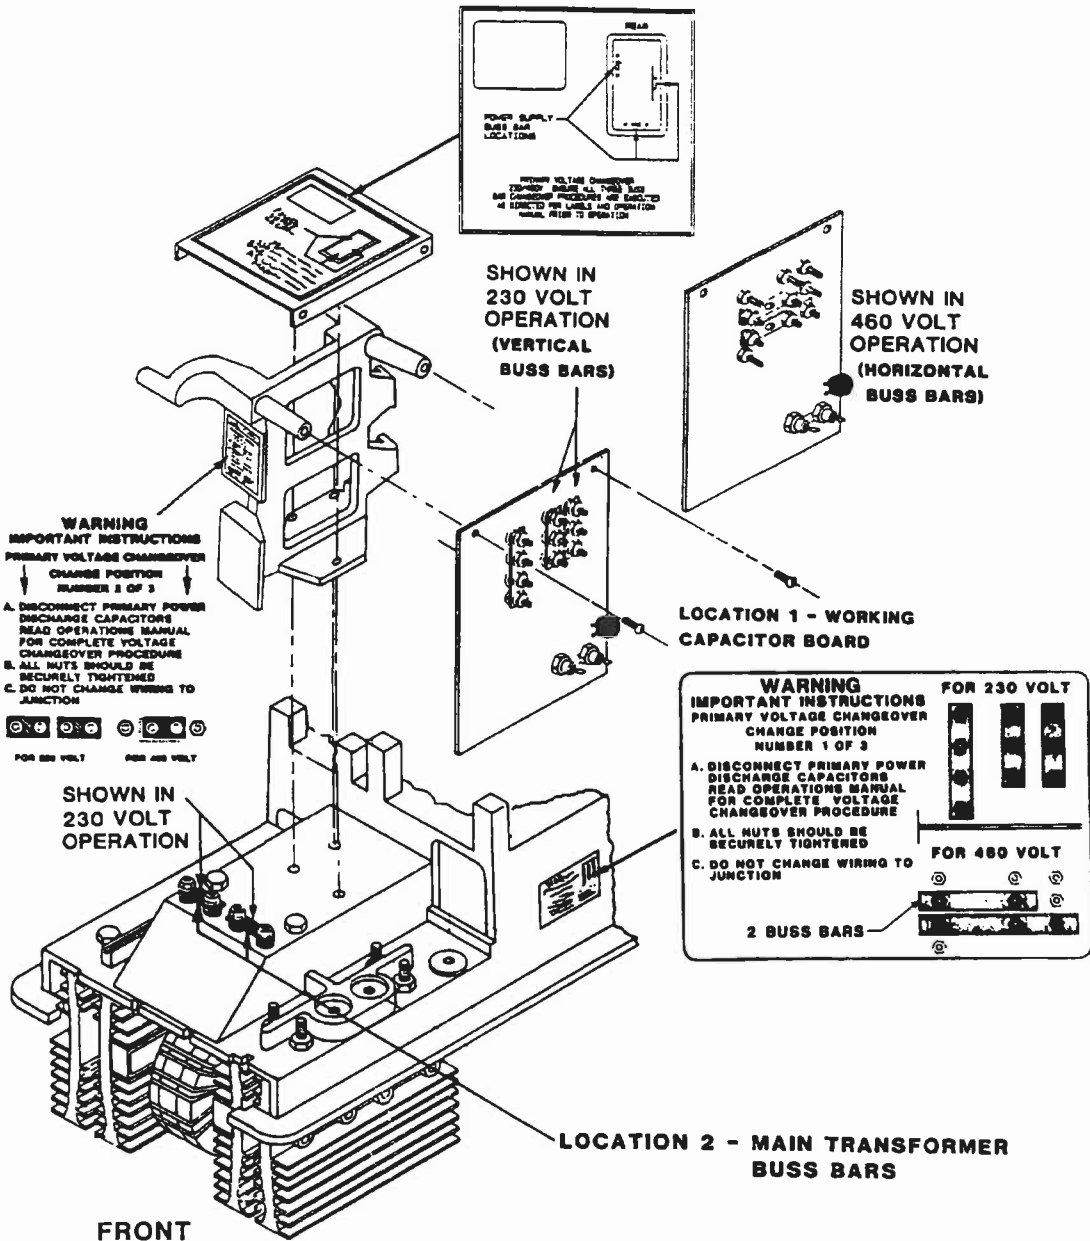

Figure 4 - Location 1 and 2 Voltage Changeover
- 1) Working capacitor board (right front side of unit, see Figure 4.)
- 2) Copper buss bars for main transformer (front of unit, see Figure 4.)
- C) Identify the voltage change-over instruction labels for the copper buss bars and working capacitor board located as shown in Figures 4 and 5.
- A) Locate the working capacitor PC board as shown in Figure 4.
- A) Locate the instruction label for the copper buss bars shown in Location 2 of Figure 4.